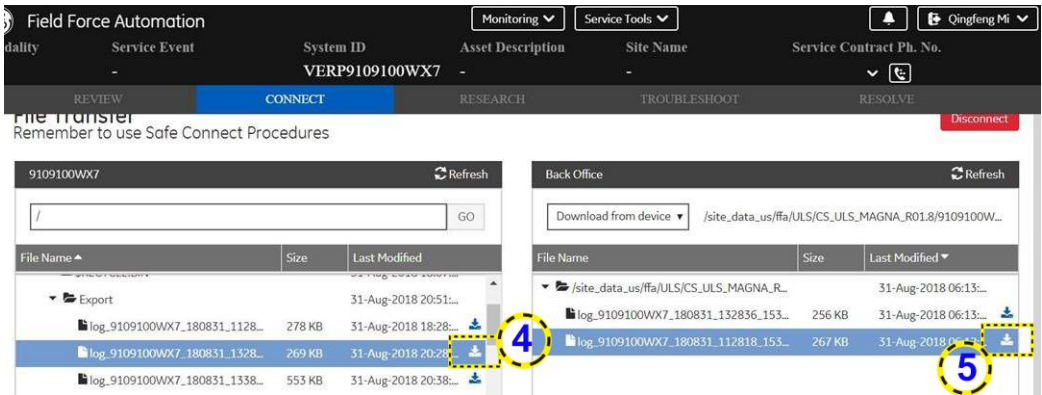

Figure 7-53. File Transfer
- 5. In back office page, click **button** (5) in **Figure 7-53** to download the file to PC.